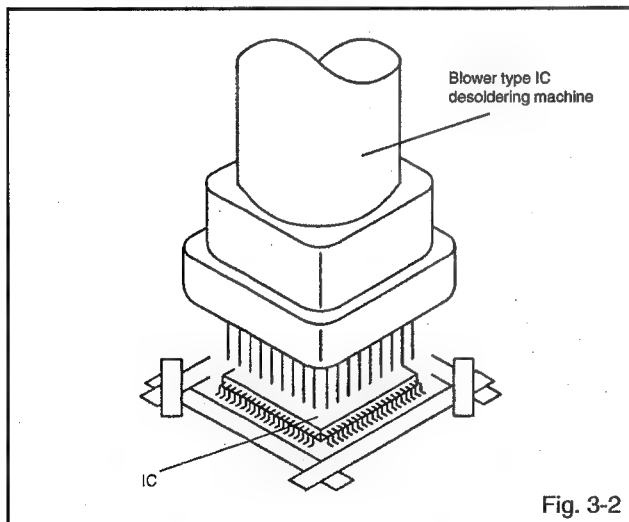

Fig. 3-2
2. Heat the IC leads using a blower type IC desoldering machine. (Refer to Fig. 3-2.)